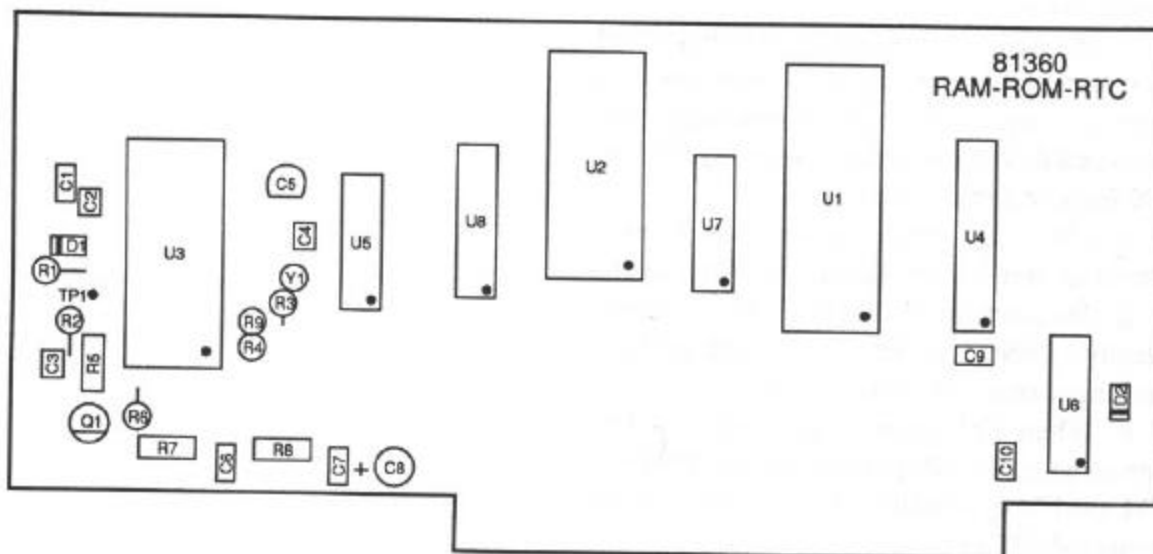

FIGURE 6-63. 81360 RAM-ROM-RTC BOARD COMPONENT LAYOUT
9. INSTALL NEW EPROM Refer to FIGURE 6-63 and locate U1 (27C64 Eeprom). If the label on U1 reads "98161 Version 3-7" or higher, then you do not have to change it and can proceed to step 10, otherwise carefully remove U1 (27C64 Eeprom) from its socket using a small screw driver or an I.C. extraction tool. Next, replace U1 with the new #98161 Eeprom enclosed in the Model 258 package. Be sure you insert it with the notched end pointing down towards the edge card connections. Also check to be sure there are no bent pins. Please place the old Eeprom in the protective bag and return it to Ten-Tec, so that it can be erased and reprogrammed.